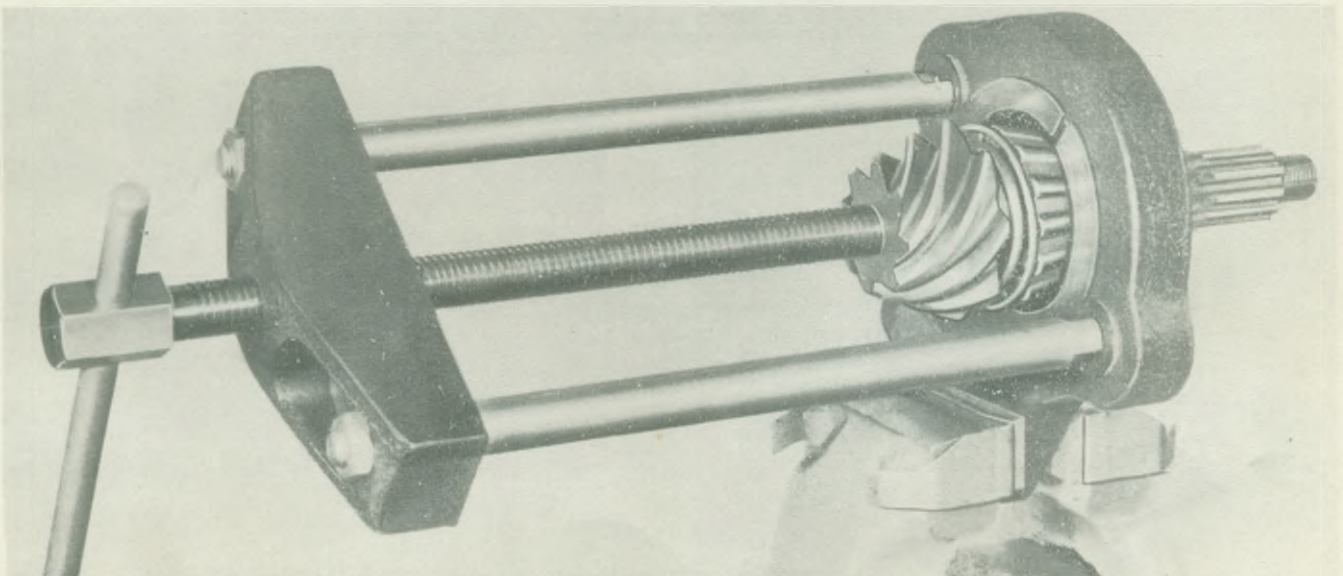

Fig. 23. Fitting pinion head bearing inner ring —Tool No. 20SM-4615
7. Install inner ring of pinion head bearing as shown in Fig. 23.